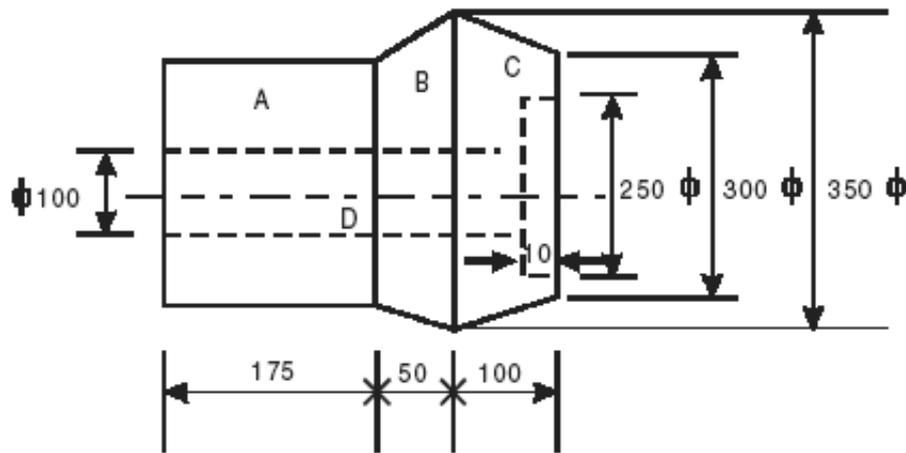

Figure 10
8. a) Figure 10 shows a cast bevel gear blank made up of mild steel. Find the weight and cost of material required for it. Assume the density of mild steel = 7.85 gm/cc and its cost as Rs.60/kg.